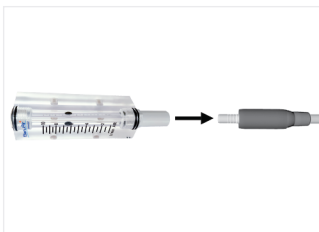

FIG. 5
5. Place the flowmeter on the nose attachment then activate the cooling air and measure the airflow. The value is measured in the middle of the flowmeter's ball according to standard JIS B7551. FIG. 5.